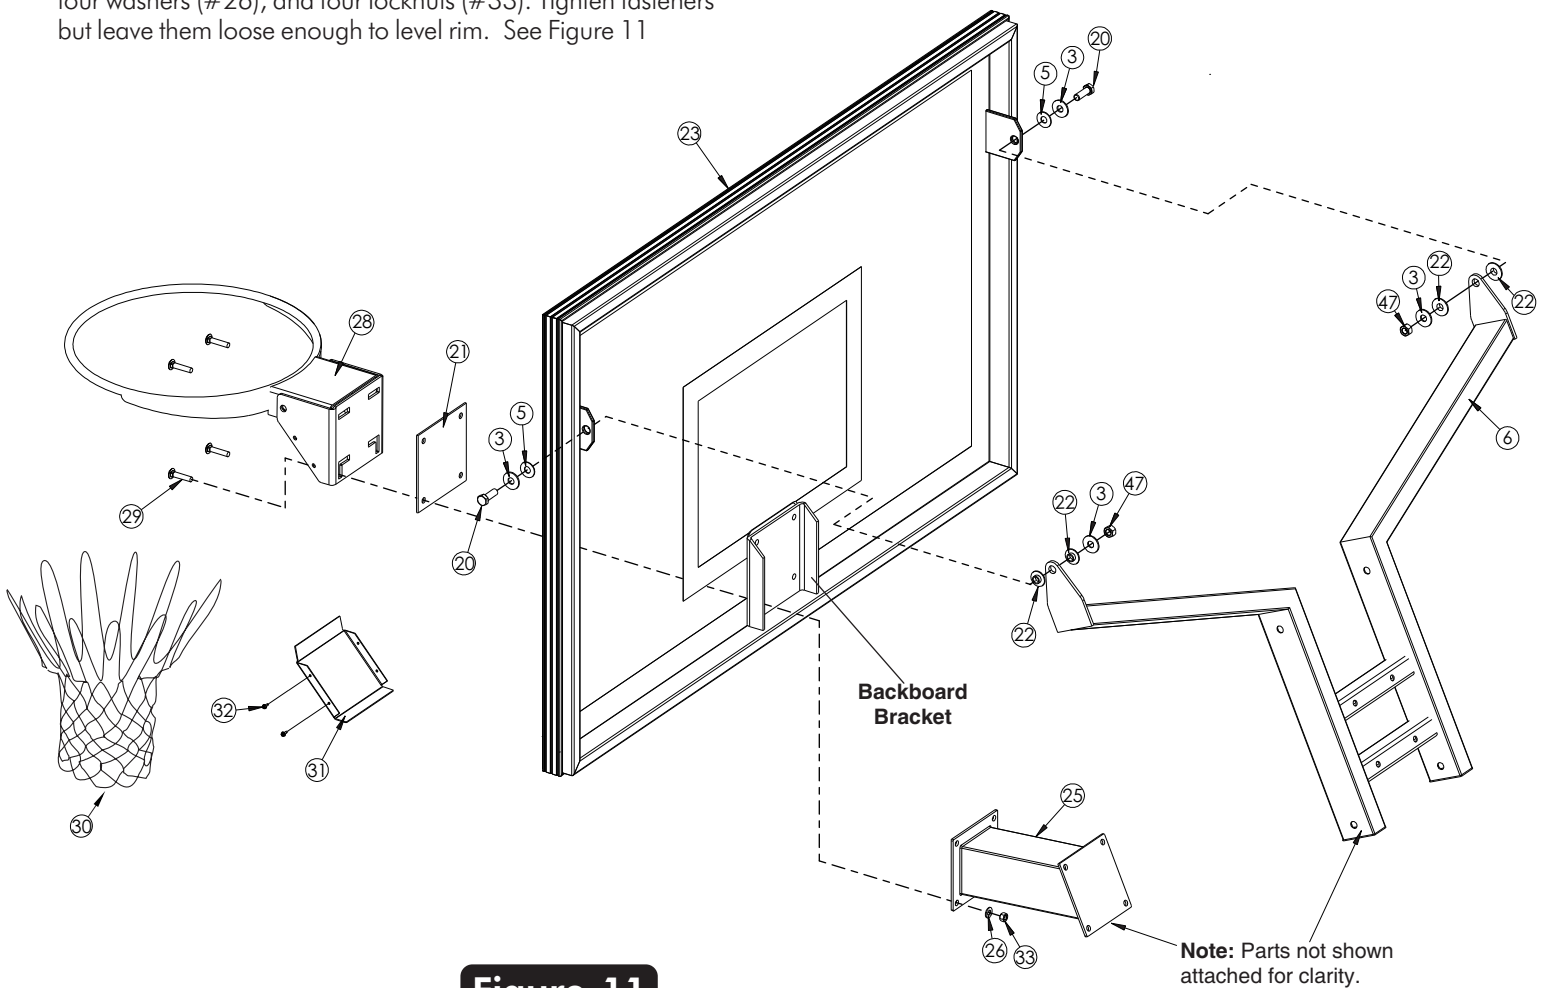

Figure 11
17. With at least three capable people, raise the backboard assembly up and have the fourth attach Upper Board Arm to upper mounting bracket holes on backboard using one bolt (#20), two step bushings (#22), (may be shipped already installed), one plastic washer (#5), two flat washers (#3) and one thin hex locknut (#47) on each mounting bracket. See Figure 11.
18. Mount Goal Assembly (#28) and Rim Pad (#21) to Backboard bracket and Rim Beam (#25), using four carriage bolts (#29), four washers (#26), and four locknuts (#33). Tighten fasteners but leave them loose enough to level rim. See Figure 11
20. Attach Rim Cover Plate (#31) using four screws (#32). See Figure 11.